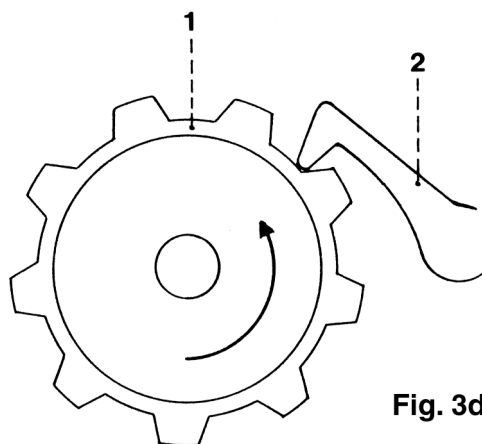

Fig. 3d
- Turn worm 9 to the front, making sure it rests on the left side of the set collar, until feeler finger 2 is exactly at the starting point of the rising cam 1 (fig. 3d).